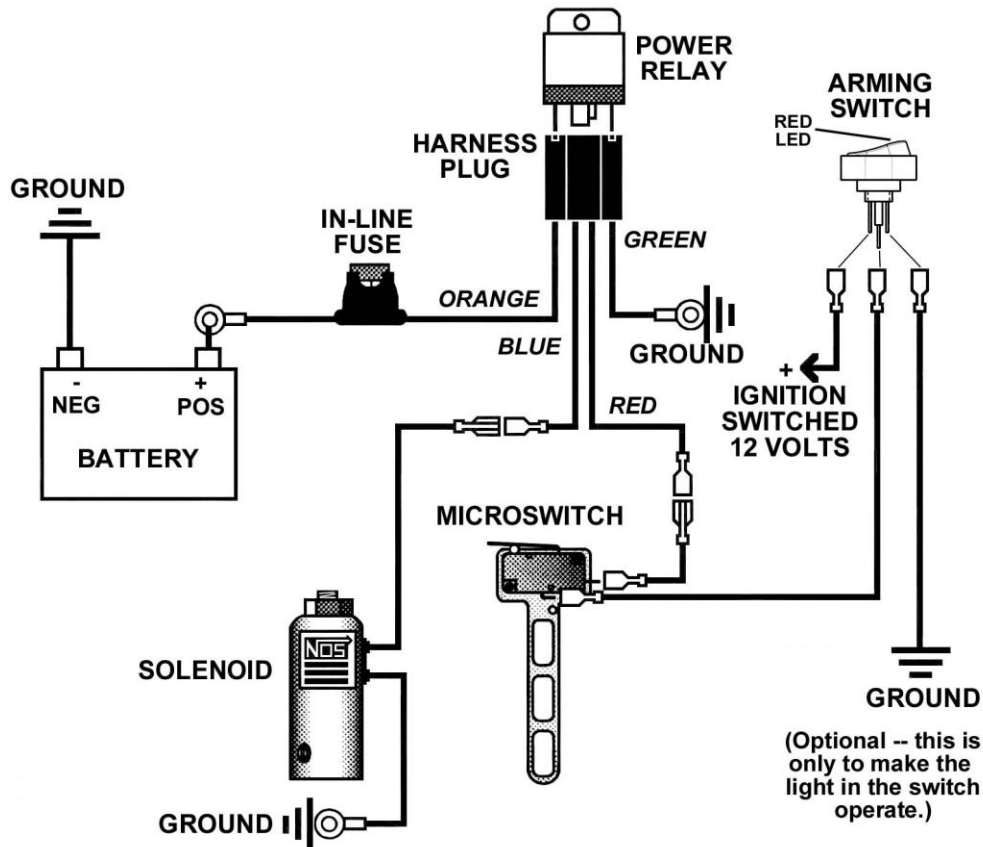

Figure 13 Electric Wiring Schematic
Refer to **Figure 13** and the procedures in this section for electrical system installation.
15. Push the throttle wide open while the engine is off. The solenoid should make a clicking noise if it is cycling correctly. If no noise is heard, check all the wiring connections and the wiring schematic in **Figure 13**.